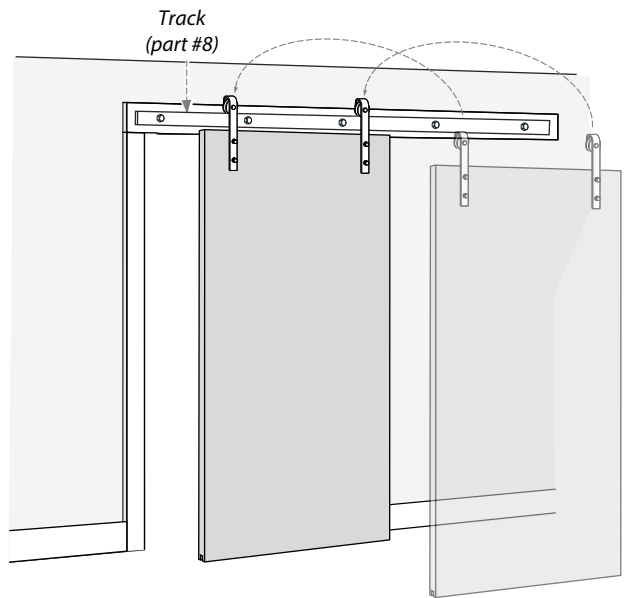

Figure 7
2. Carefully place the door on the track (figure 7).